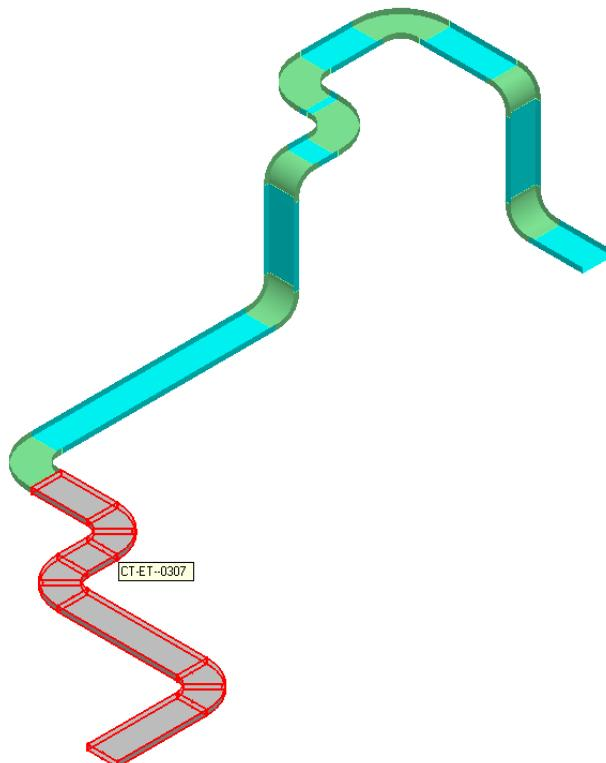

Figure 47: Selected Cableway
2. Select the cableway with non-zero spec from the graphic view, as shown in Figure 47.